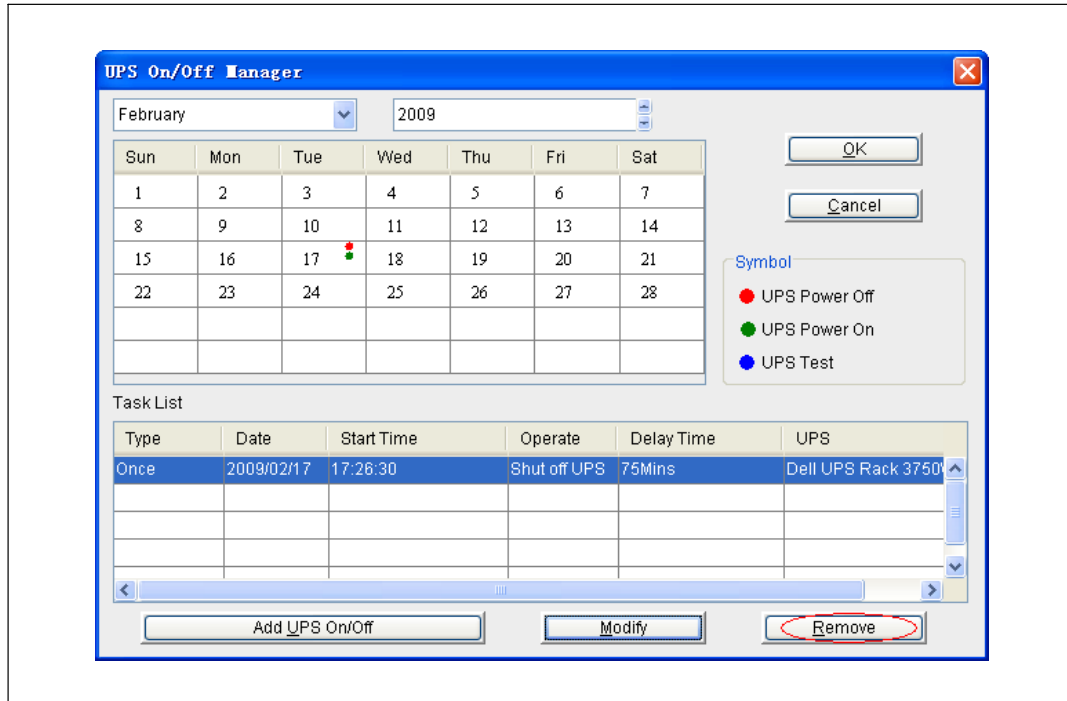

Figure 85. Remove Scheduled UPS On/Off Task
- 2 Click **Remove** to cancel the task (see Figure 85).